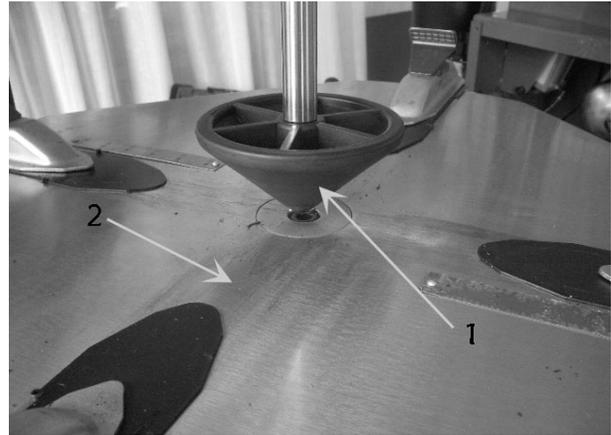

FIG 35
6.1.7 Connect the air source, insert the press cone roller connect rod (fig34-1) into the rotation shaft hole(fig 34-2) of the rotation arm. Handle manual direction change valve to make the tip of the press cone roller coincide to the center of the turntable(fig35). If not coincide, use the screw to adjust the position of the base to realize the coincide. After adjustment, fix the bolt.